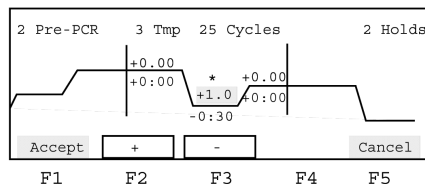

Figure 4-8. The AutoX screen
4. Press **F1-AutoX**. This displays the AutoX screen (Figure 4-8).